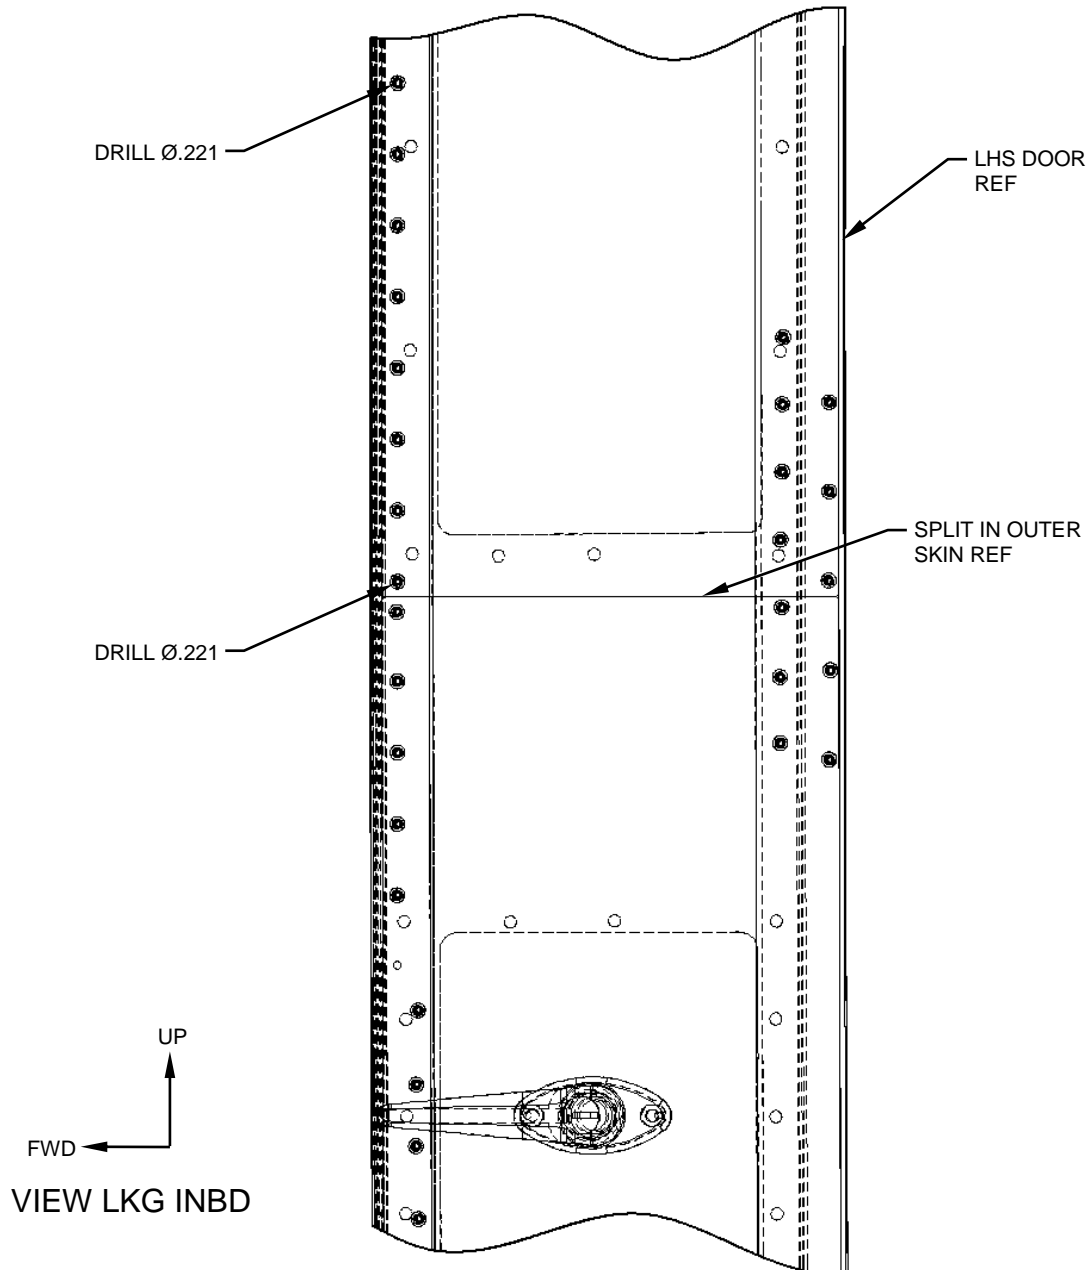

Figure 20
2. Drill out the indicated rivets, upsize the resultant holes to $\text{Ø}.221$ (#2). Reference Figure 20.